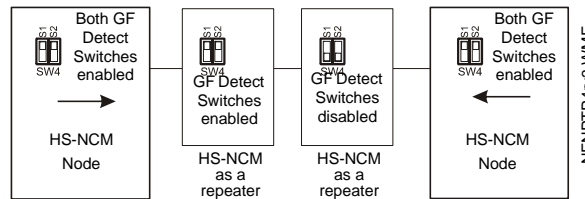

Figure 3.7 Maximum Point-to-Point Series Repeater Ground Fault Pass-Through Configuration (EXAMPLE 3)
- EXAMPLE 3:** Ground fault detection is effective for a maximum of two serially connected (point-to-point) repeaters. Therefore, a maximum of five HS-NCMs configured as repeaters can be connected in series when ground fault detection is required. Figure 3.7 shows how the ground fault detection switches must be arranged in order to achieve this maximum configuration.